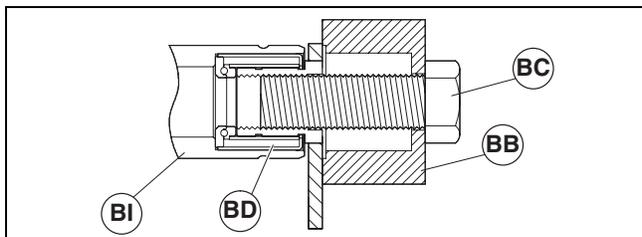

Figure 36
7. Turn bolt (BC) until retaining sleeve (Figure 36, item BD) separates from pulley (BI). Remove retaining sleeve (BD).